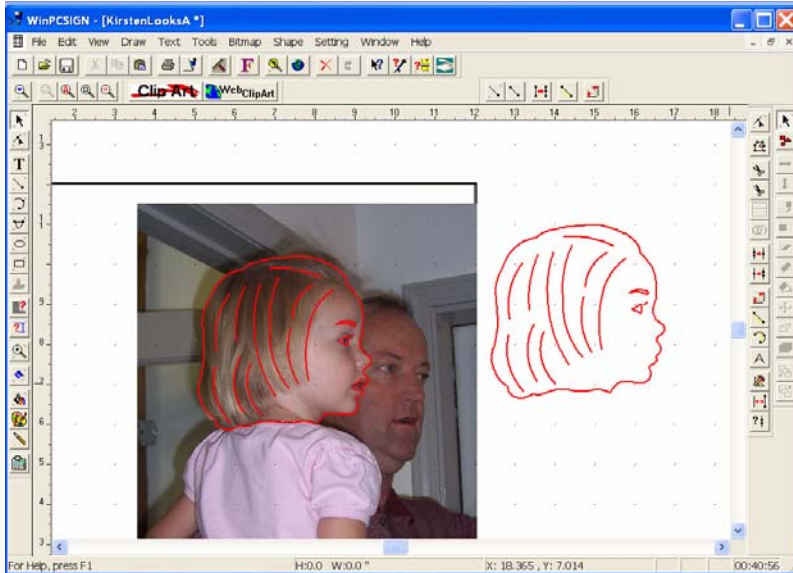

Figure 135
- 2 From the **Edit** menu, click **Copy and Paste** to make a copy of your project. The copy will assist you in seeing if any adjustments must be made. See figure 135.